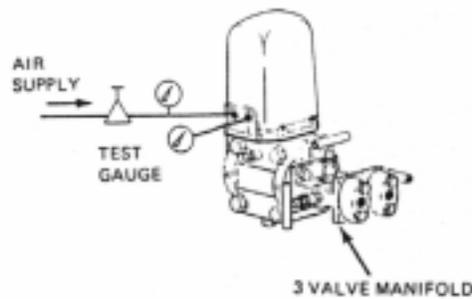

Figure 22.
3. Disconnect line to receiver. Connect a 0 to 140 kPa or 0 to 20 psi test gauge to OUT connection. Refer to Figure 22.